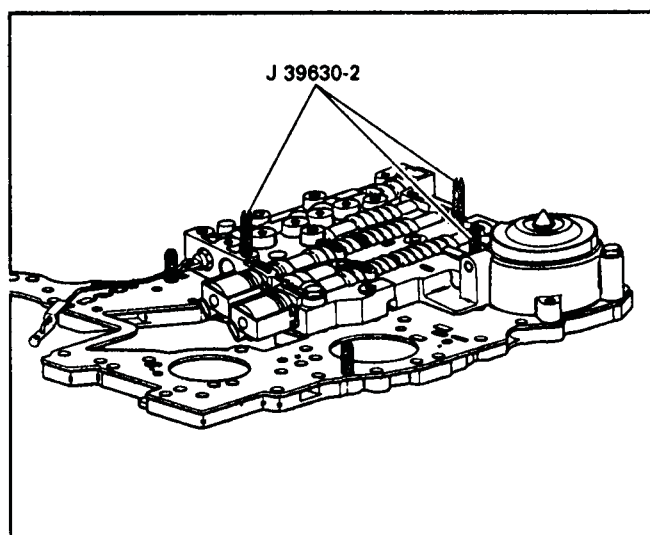

Figure 86
5. Install lower valve body over guide pins (See Figure 86).